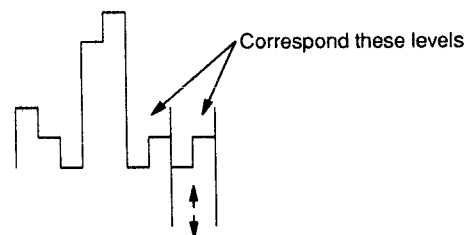

Fig. 7
4. Adjust L106 until suitable for white and black part of TP8 waveform become at 0 – level. (Fig. 7)